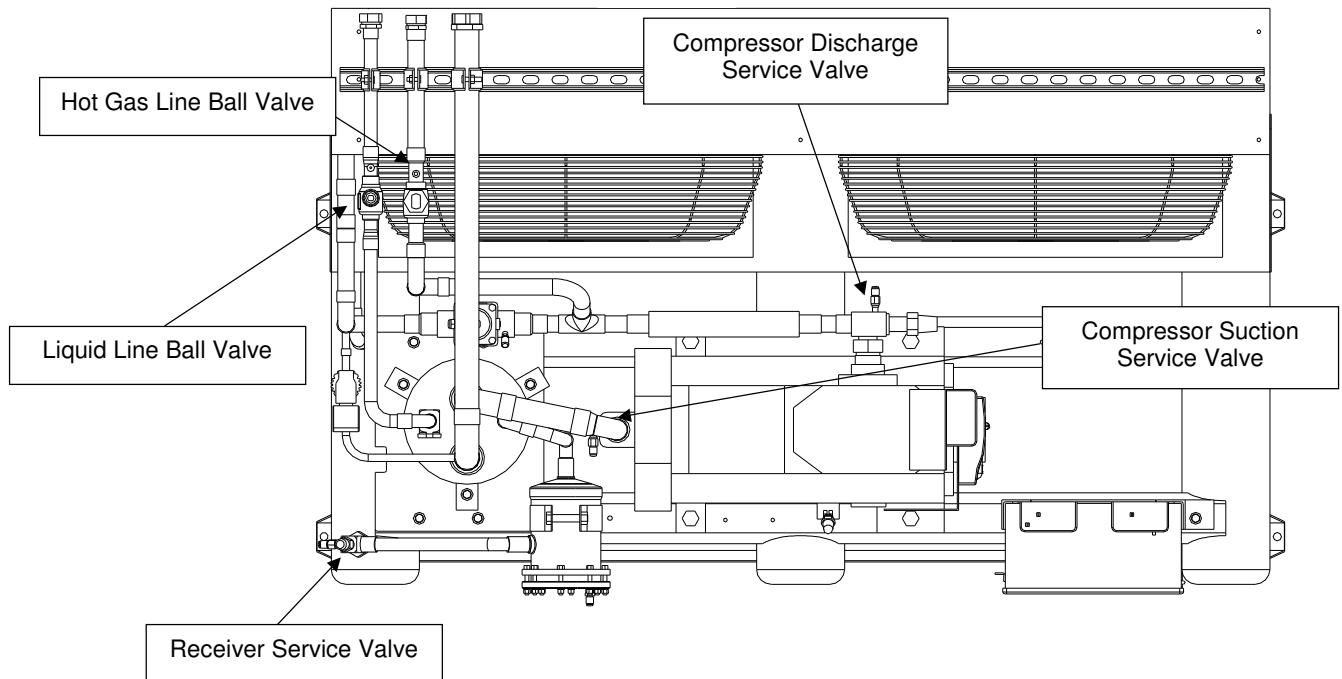

FIGURE 4-4
2. Open all service and ball valves. (Figure 4-4 & 4-5)